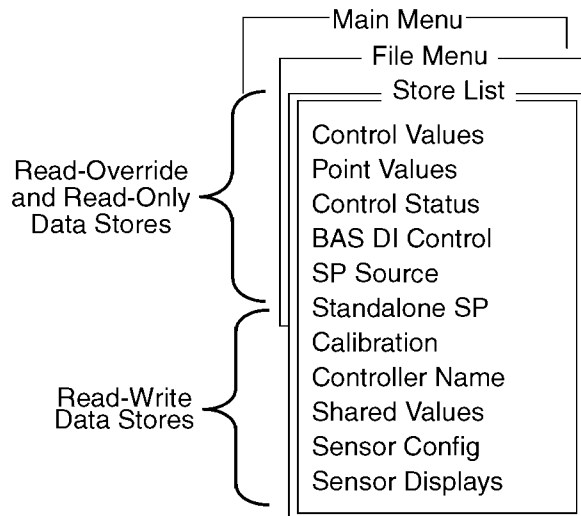

Figure-4.35 Store List.
3. Select the file you wish to edit and press <Enter>. The Store list appears (Figure-4.35).